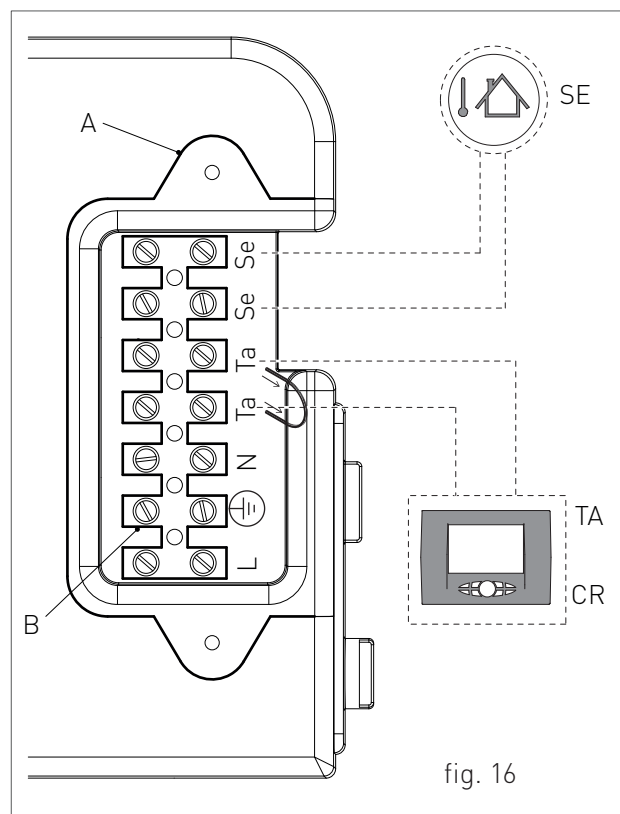

fig. 16
- › Remove the front casing of the boiler (see 2.2.13 ACCESSING THE BOILER); unscrew the screws and remove plate "A" (see fig. 16).
- › After removing the plate, connect the electrical cables to terminal "B" (see fig. 16):